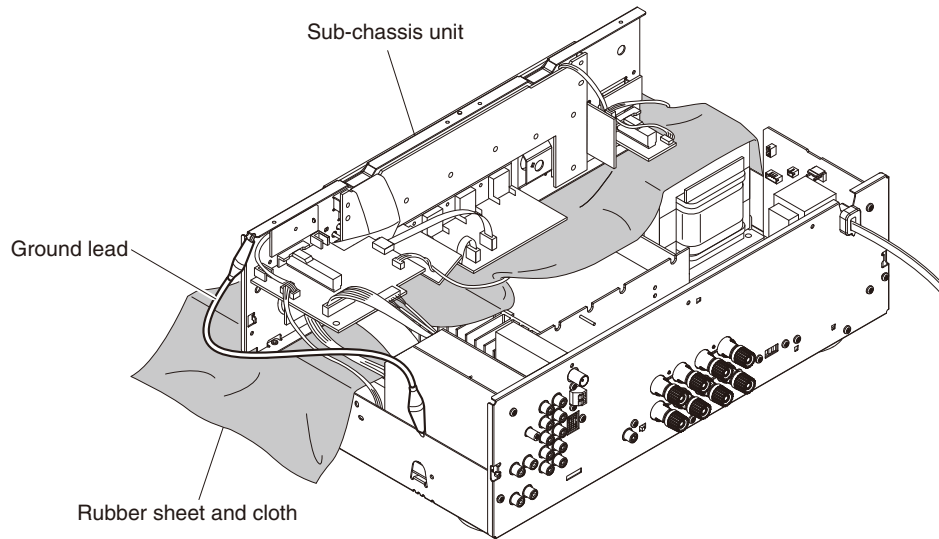

Fig. 4
- Put the rubber sheet and cloth over this unit. Then place the sub-chassis unit on the cloth and check it. (Fig. 4)
- Connect the ground point of the sub-chassis unit to the chassis with a ground lead or the like. (Fig. 4)